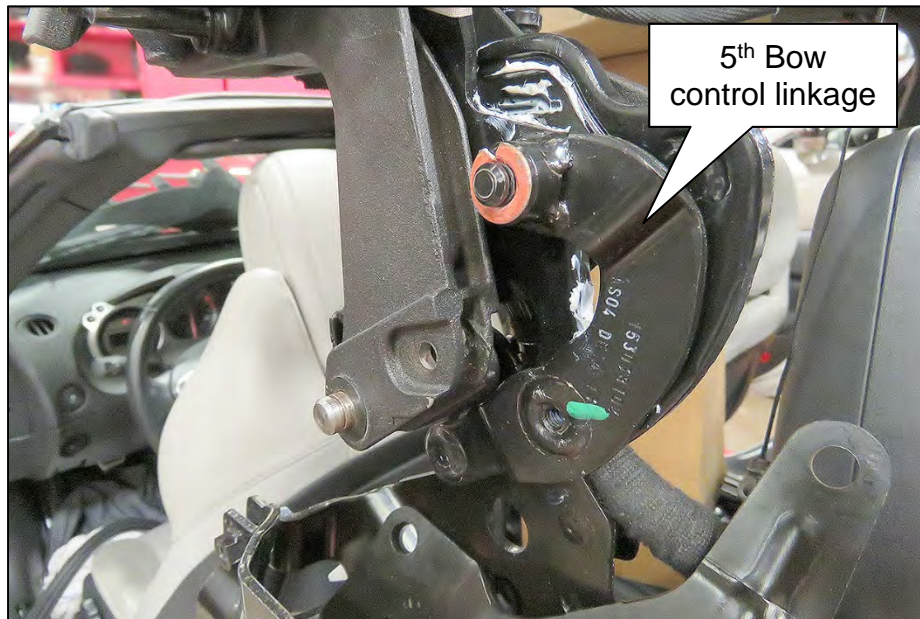
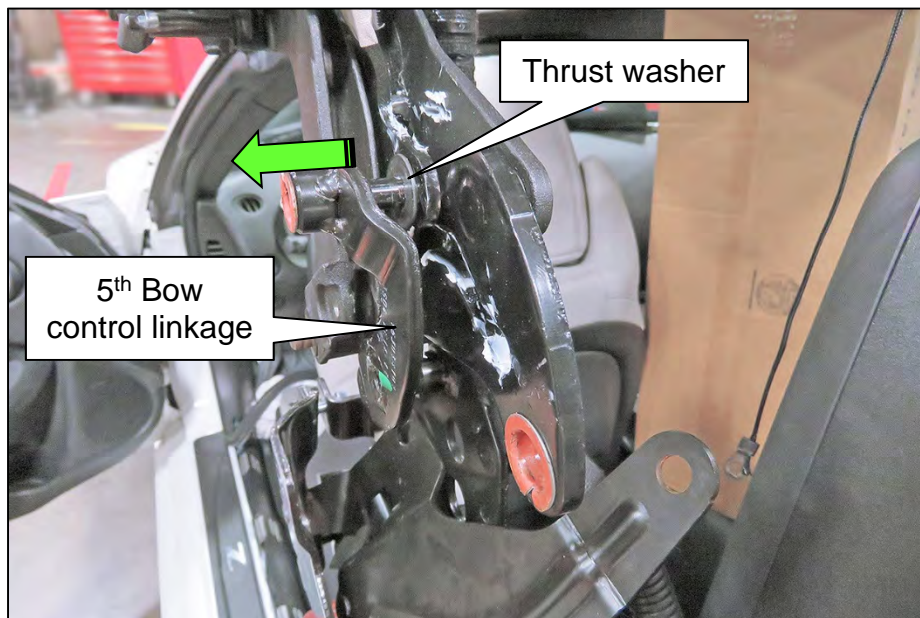

Figure 244
Figure 245
261. Remove the 5th Bow control linkage (Figure 244 and Figure 245).
- Figure 245 is a side view, as 5th Bow linkage is being removed.
IMPORTANT: Retain the thrust washer shown in Figure 245, it will be reused.